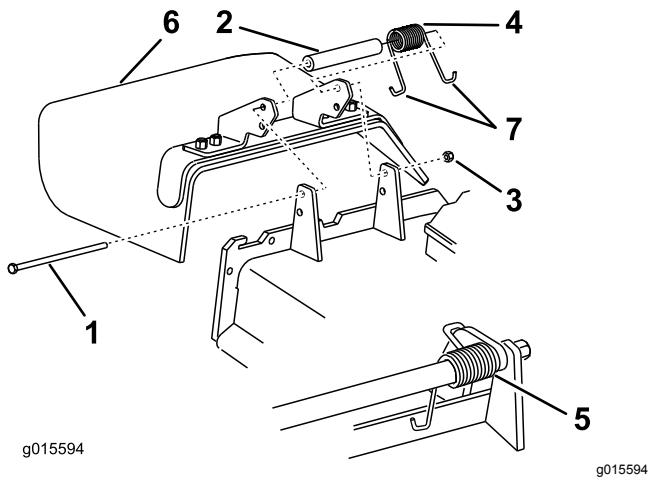

Figure 108
1. Remove the locknut, bolt, spring, and spacer holding the deflector to the pivot brackets (Figure 108).
2. Remove the damaged or worn grass deflector (Figure 108).
**Note:** Make sure that 1 J-hook end of the spring is installed behind the deck edge before installing the bolt as shown in Figure 108.
6. Place 1 J-hook end of the spring around the grass deflector (Figure 108).